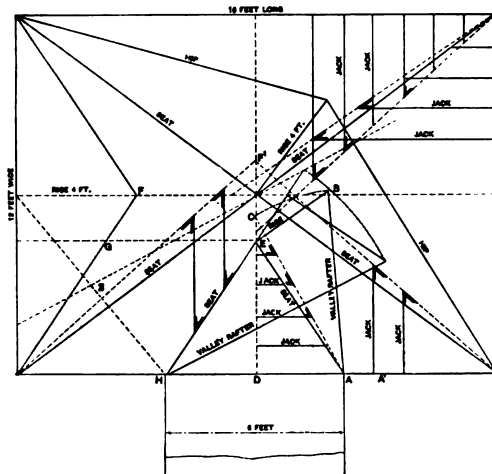
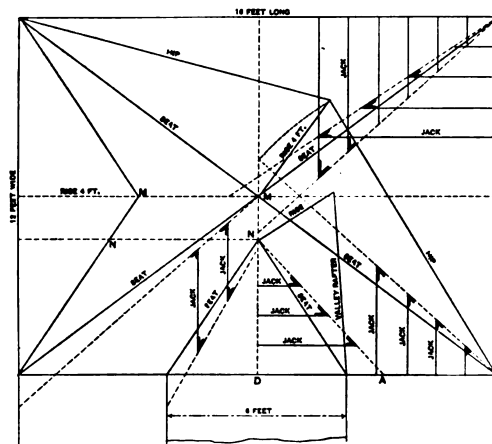

Fig. 1.
Fig. 2.
asking you to do me the favor of correcting some diagrams on roofing which I have sent to you under separate cover. If it will take too much room in your valuable paper to illustrate the corrected diagrams, please let me know which one is the nearest to being correct. Not long ago I purchased a book on roof framing in which the method of obtaining the lengths and bevels of the jack rafters in roofs of different pitches is as shown in Fig. 1 of the diagrams. Here G shows the intersection of the square pitched roof and 2 the angle division. Now I have had no practice in framing just exactly such a roof as this, but have changed the diagram to indicate my own idea of how the work could be done, and it is presented in Fig. 2. Here M N is the length of the short
*Answer.*—We give in the illustrations herewith presented, exact reproductions of the diagrams sent by our correspondent, and are free to say that his course of reasoning, as well as his diagrams, Figs. 2 and 4, for obtaining the lengths and bevels of the jack rafters are correct.
We are sorry to be obliged to pass adverse judgment upon any published work intended for the instruction of building mechanics, but if the methods shown in Figs. 1 and 3 are as given in the book referred to, then, beyond all doubt, the author has made a grievous error.
Our correspondent has mentioned the essential points in which he has found the diagrams taken from the book to be wrong and to which we will add, first, that in Fig. 1 one-half the true or slant width of the roof surface of the 6-foot extension is there shown to be D A, while in reality it is equal to D A of Fig. 2. All of the jack rafters coming against the valley line C A are therefore too short, as may be seen by comparison with Fig. 2. The length of the valley rafter in Fig. 1 has been correctly obtained at A B, but the error consists in having swung the compasses from A as a center, cutting the ridge line extended at C, instead of having placed one foot at the point E, swinging the other foot around to cut the eave line near A'.
published in the October number of last year. Referring to Fig. 1 of the sketches, I would say that H is the box, I is the lid, a b the trays, which are hinged at e and f. They are put together with an iron strap, c,  $\frac{1}{2}$  x 1 inch iron, making a hinged joint at k and l. One of these straps on each end of the trays set so the trays are parallel to each other. Then another strap of the same size, b, is also hinged at l and g. At g it is fastened to the box. This point must be set so that the trays when the lid is closed will, with the corners m and n, just touch the bottom of the lid at o p.
Referring now to Fig. 2, I would state that this shows the lock for the drawers, A and B being the drawers. At a is the shutter or bolt; d is the spring fastened to the bottom of the tool chest at e. The shutter a must be made long enough so that when the lid comes down it will push the shutter down, and f locks the drawer A at b, while g locks the drawer B at c. When the lid is opened the spring d pushes up the shutter a and unlocks the drawers.
The great defect in this roof truss is that two ABSOLUTELY NECESSARY members are omitted. If the ties X and Y had been put in the truss it would probably have stood up without sagging, but omitting these members throws the whole stress on the rafters and causes them to bend, as shown by the dotted lines. If the roof is still standing when this issue of the paper reaches the correspondent it is liable to collapse at any time unless the walls have been braced. Putting in the members X and Y gives the truss the shape shown in Fig. 2, in the December (1903) number of this paper. The necessity for ties X and Y may be more clearly understood by following the strains produced by a load at a, which are the same as those actually produced by the weight of the roof. A load at a produces a thrust in the rafter and brace B. The piece X takes the thrust from b and carries it to c. At c part of the pull in X is taken by the rafter and part by the brace c d, as indicated by the ar-